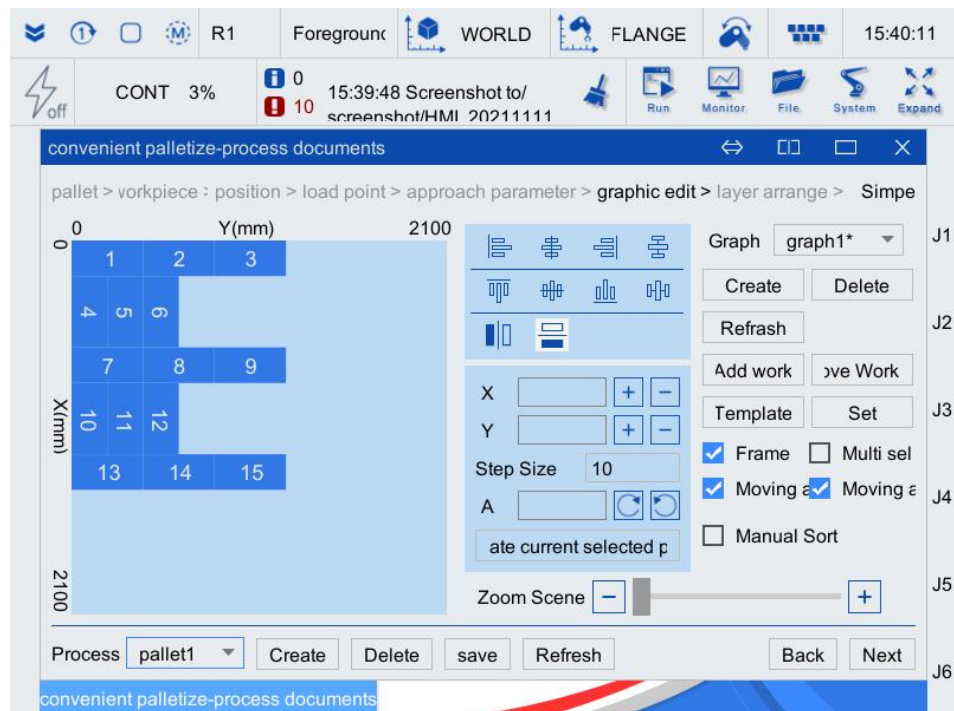

Figure 3-20 Display workpiece arrangement
Step3. The arrangement of workpieces is displayed on the interface, as shown in Figure 3-20.